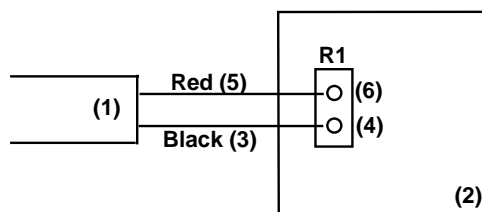
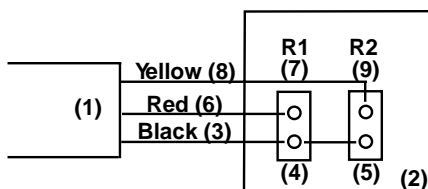
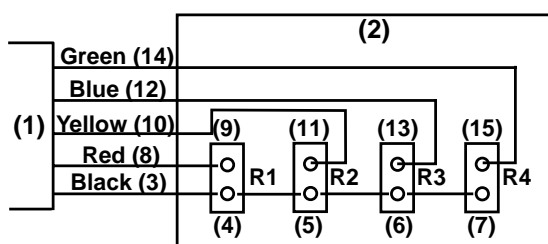

Fig. 4. One line control.
Fig. 5. Two line control.
Fig. 6. Four line control.
- (b) Wiring the *interface cable* (1) to the HPLC (2) with 1-line control (see Fig. 4):
- (i) Connect the black wire (3) to the *ground terminal* (4) of the HPLC event relay R1.
- (ii) Connect the red wire (5) to the control line (6) *terminal* of the HPLC event relay R1.
- (iii) See the Operation section (VI) for typical commands and examples of programming with this type of control.
- (2) 2-Line *Level Logic* Control (controls the rotation of the valve on the first line and direction on the second line):
- (b) Wiring the *interface cable* (1) to the HPLC (2) with 2-line control (see Fig. 5):
- (ii) Connect the jumper wire (supplied) from the *ground terminal* (4) of the HPLC event relay R1 to the *ground terminal* (5) of the HPLC event relay R2.
- (iii) Connect the red wire (6) to the control line (7) *terminal* of the HPLC event relay R1.
- (iv) Connect the yellow wire (8) to the control line (9) *terminal* of the HPLC event relay R2.
- (c) See the Operation section (VI) for typical commands and examples of page numbering programming with this type of control.
- (1) 1-Line *Pulse Logic* Control (valve rotation only, the simplest control):
- (b) Wiring the *interface cable* (1) to the HPLC (2) with 1-line control is exactly the same as in *level logic* control (see Fig. 4).
- (2) 2-Line *Pulse Logic* Control (controls the rotation of the valve on the first line and direction on the second line):
- (b) Wiring the *interface cable* (1) to the HPLC (2) with 2-line control is exactly the same as in *level logic* control (see Fig. 5).
- (c) See the Operation section (VI) for typical commands and examples of programming with this type of control.
- d) 4-line *BCD* control. The instrument used to control this model must have four (4) *TTL* or *contact closure outputs*. This method of control is the best means of controlling the Column Selector since it allows direct access to any chosen column position.
(1) 4-Line *BCD* Control (independent selection of any position):
- (b) Wiring the *interface cable* (1) to the HPLC (2) with 4-line *BCD* control (see Fig. 6):